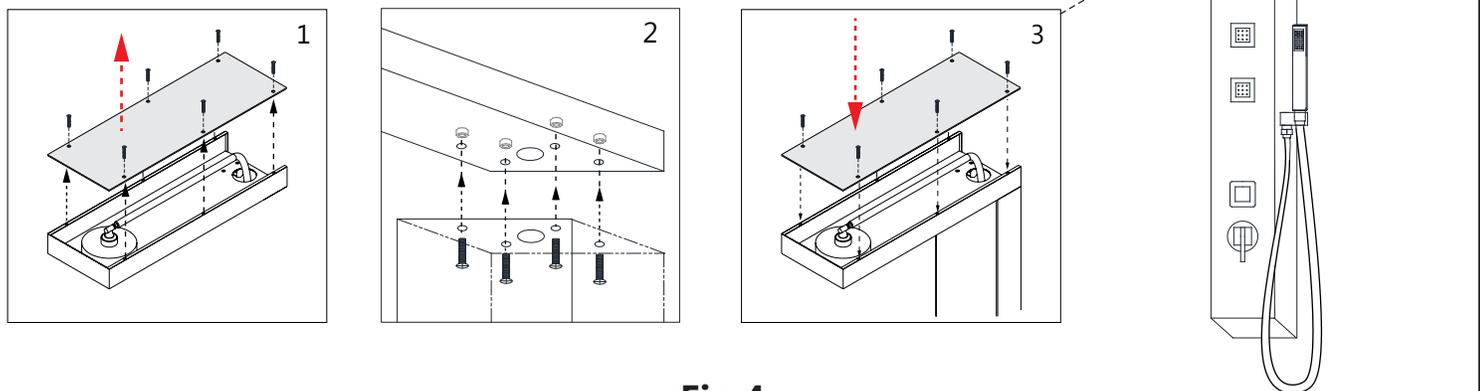

Fig 4
4. Remove the top panel from the **Shower Head** assembly (**Fig 4.1**) Assemble the **Shower Head** to the **Shower Panel Body (#01)** using the provided nuts and bolts, according to the diagrams below, then reinstall the top panel (**Fig 4**)
Note: Install the bolts from underneath the **Shower Panel Body (#01)**, pushing them up through the holes in the top of the **Shower Head** portion of the unit (**Fig 4.2**), securing each bolt with a nut from above to lock it in place. (**Fig 4**)